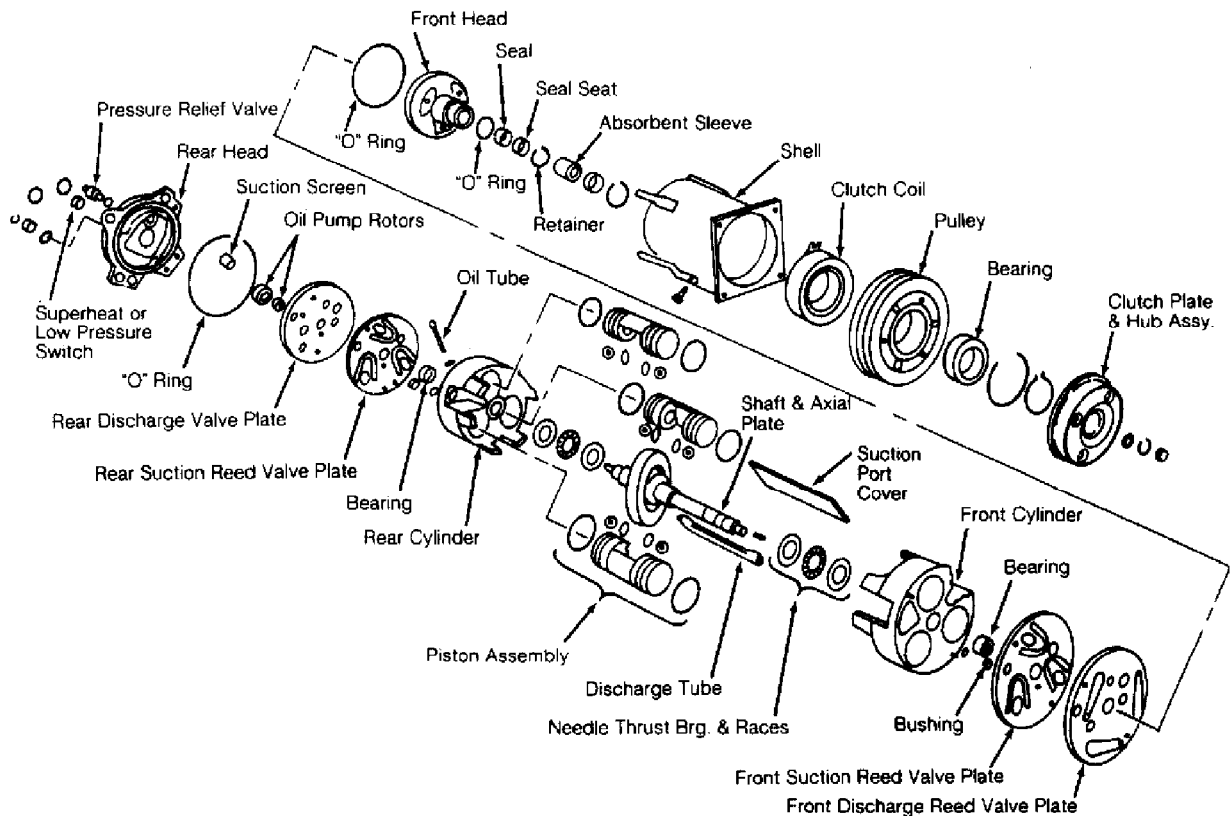

Fig. 6: Harrison A-6 6-Cylinder Compressor
5) Remove Installer (J-33013) and check for correct positioning of shaft key (even or slightly above clutch hub). Install shaft nut. Hold clutch plate and hub assembly with Clutch Hub Holder (J-33027). Using Shaft Nut Socket (J-33022), tighten nut against crankshaft shoulder to 8-16 ft. lbs. (11-22 N.m). Spin pulley rotor by hand to see that rotor is not rubbing on clutch drive plate. See Fig. 6.